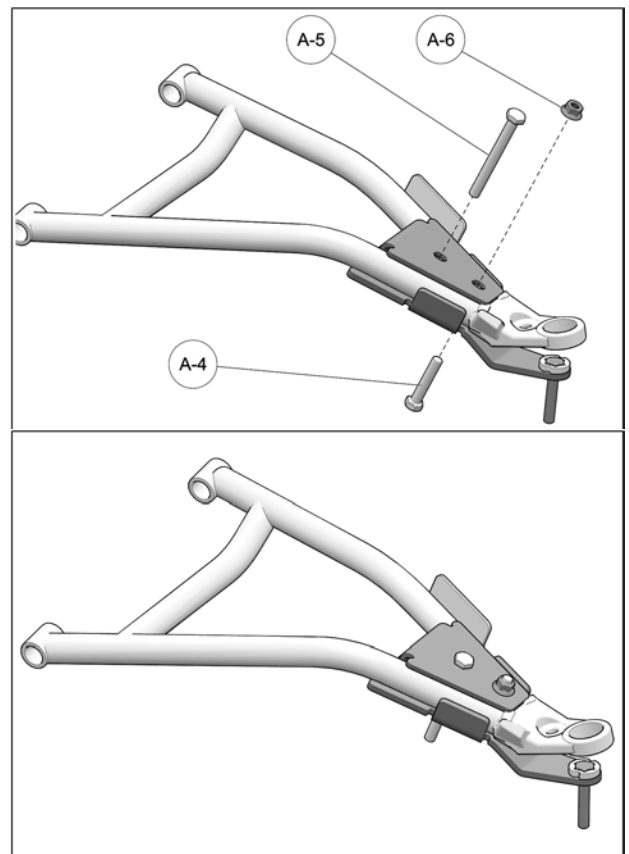

Fig. 16
6. Insert M10x55mm bolt (A4) from the bottom and M10x100mm bolt (A5) from the top. Temporarily secure the two parts together with only the one nut (A6) threaded on the M10x55mm bolt. Tighten nut to 50 N•m [37 lb•ft] of torque. See Fig. 16